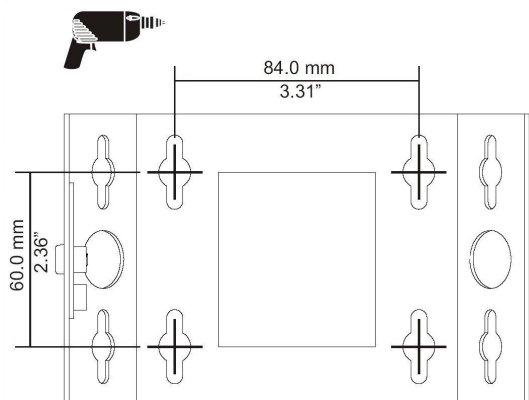
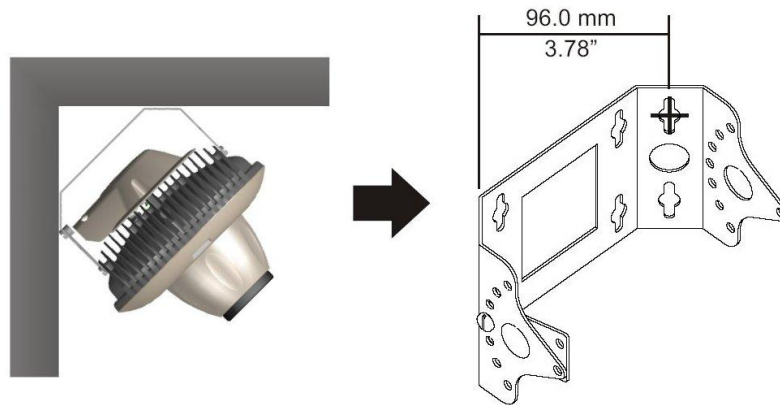

Fig 3.8) Fixings for flat surface mounting
Fig 3.9) Fixings for wall-ceiling junction.
Note that an optional lens shroud is also available for surface-mounted installations. It can be seen in Fig 3.9).
- 1) Mark the positions of the fixing holes shown in Fig 3.8) for a solid wall/ceiling. Alternatively, mark the positions of the fixing holes shown in Fig 3.9) for fitting at the junction of a solid wall and ceiling or the corner of two walls.
- 5) Fix the flat bracket plate to the main part of the bracket. This is done using one of the M5 pan head screws and shakeproof washers. It is shown in Fig 3.9)